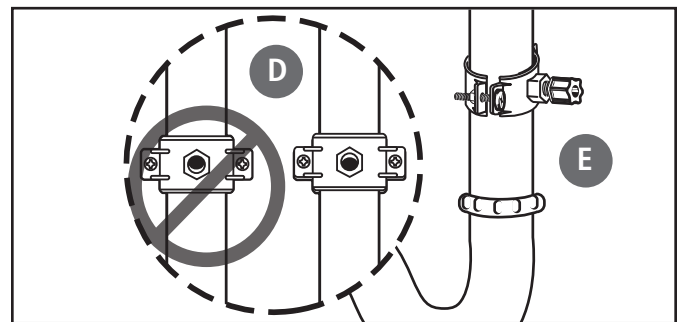

Figure 8
- D) Make sure the black rubber gasket is adhered to the inside of the drain clamp and place the drain clamp assembly over the drilled hole. Look through the hole and position the clamp so that the center of the clamp hole is slightly higher (about 1/16") than the center of the drilled hole. (See Figure 8). Tighten the clamp securely.